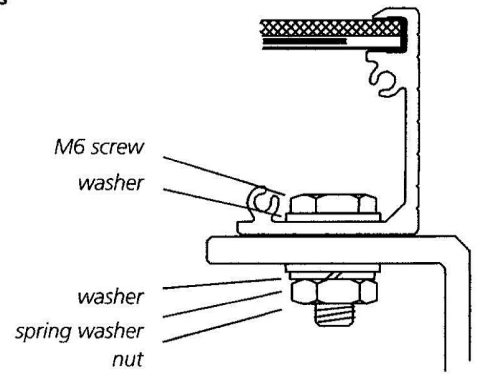

Figure 3
- Determine the nominal system array voltage of your system. Each panel is equivalent to a 12VDC nominal block for 12S modules and 24VDC nominal block for 24S modules. Standard array voltages 12, 24, 48 and 96V are shown as examples in Figure 3.